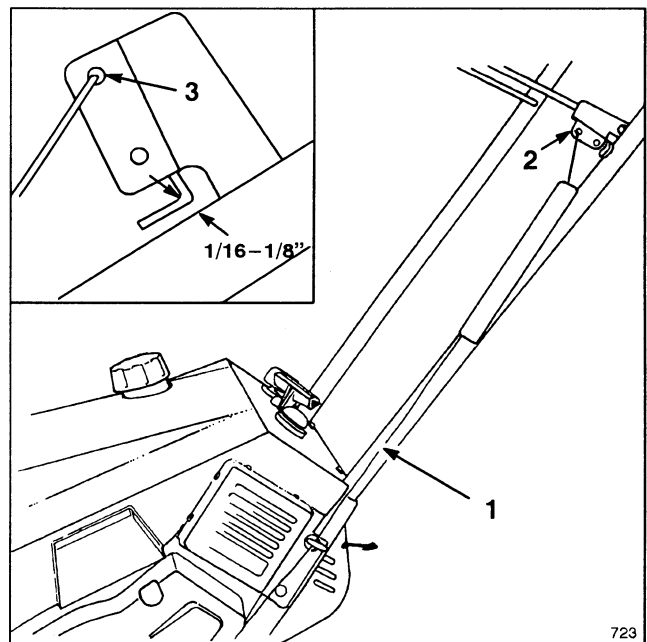

Figure 9
ADJUSTING CONTROL BAR (Fig. 9–10)
2. **CHECK ADJUSTMENT** (Fig. 9)—Move control bar back toward handle until slack in cable is removed. Gap between control bar bracket and handle should be approximately $1/16'' - 1/8''$. If cable is too loose or too tight, proceed to step 3 for adjustment procedure.